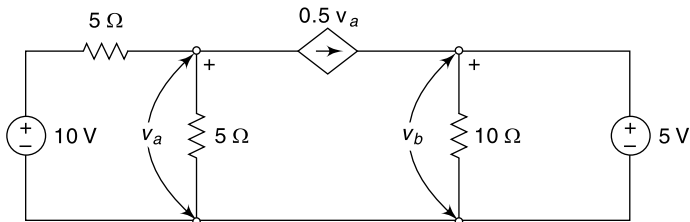

Fig. 4.163 Circuit of Ex. 4.132
4.132 Find v_a and v_b using the principle of superposition in Fig. 4.163.